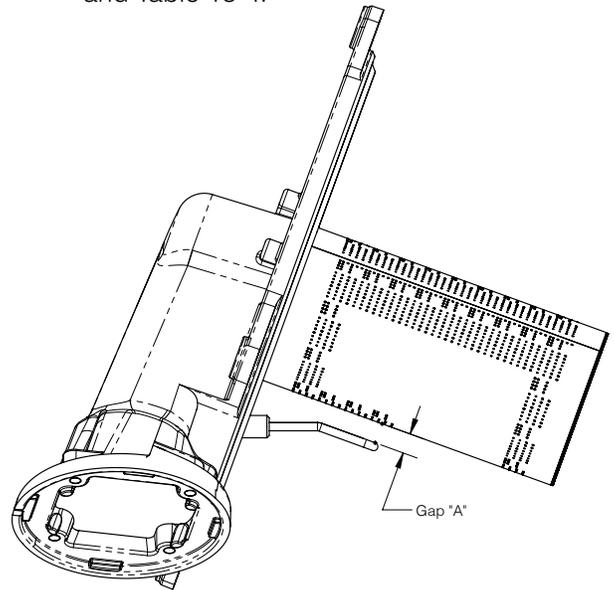

Figure 18-3: Ignitor/Flame Sensor to Burner Gap
- D. Verify gap between ignitor/flame sensor and burner is within range shown in Figure 18-3 and Table 18-4.